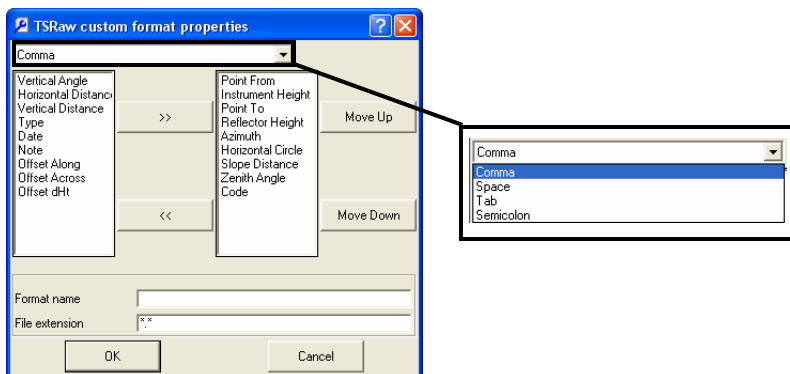

Figure 3-27. Select Delimiters
- On the *TSRaw custom format properties* dialog box, select the *Delimiters* from the drop-down list (Figure 3-27).